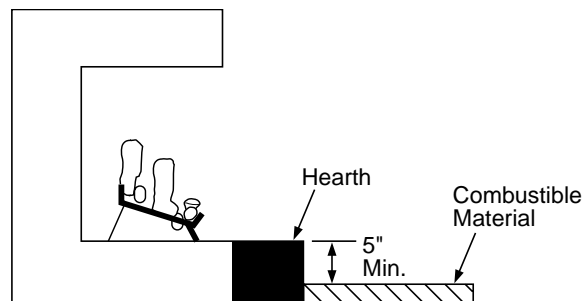

Figure 9 - Minimum Fireplace Clearances Above Combustible Flooring
B. If combustibles are less than 14" to the fireplace, you must install appliance at least 5" above the combustible flooring (see Figure 9).